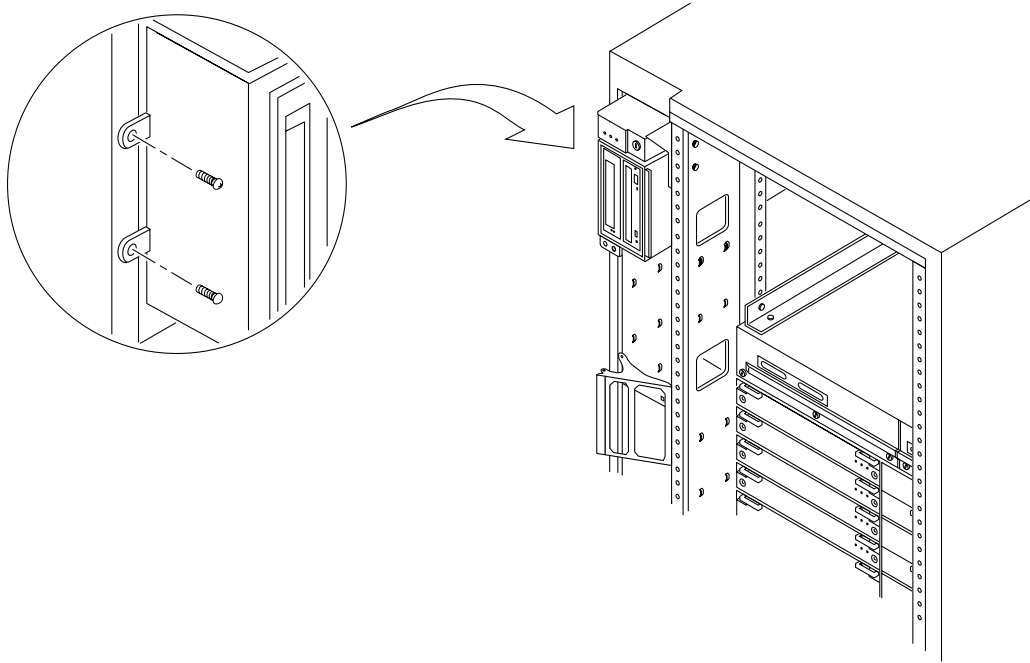

FIGURE E-8 Removing the Two Screws that Attach the media tray to the Cabinet Pillar
- 10. Remove the two screws (FIGURE E-8) that hold the media tray.**
- 6. Replace the two screws that attach the media tray to the cabinet pillar (FIGURE E-8).**